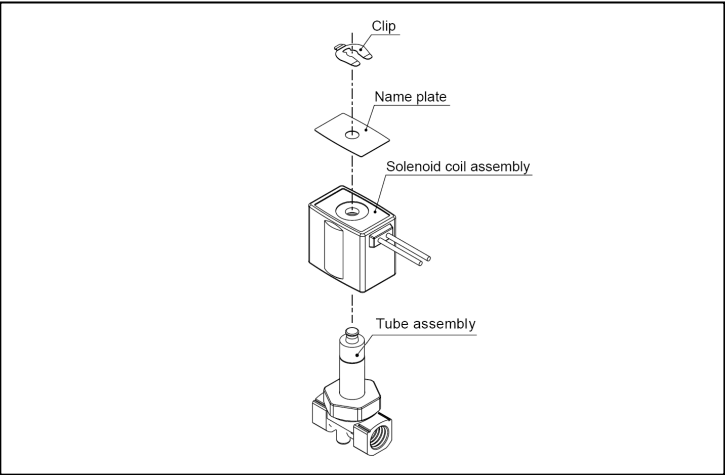

Figure 16
6.3 Solenoid Coil Replacement (see Figure 16)